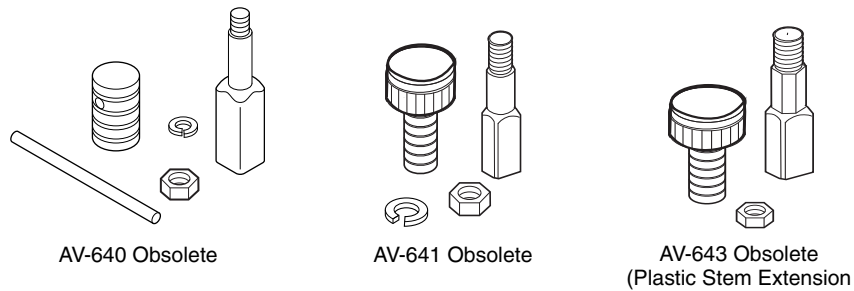

Figure-1 Obsolete Valve Linkage Kit Identification.
*Note:* Obsolete linkages are displayed in Figure-1.
a Refer to Figure-1 for obsolete valve linkage kit identification.